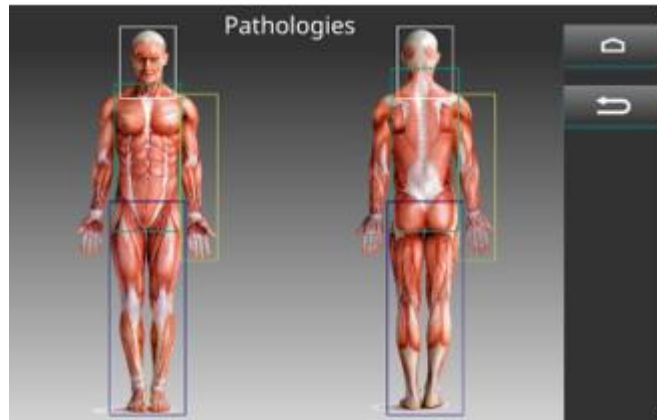

fig 10
Pressing the **PATHOLOGIES** button on the main screen (Figure 2) allows you to access the selection screen of the anatomical treatment area (Figure 10).
6. Select the desired treatment and to open it press the key  (figure 10).